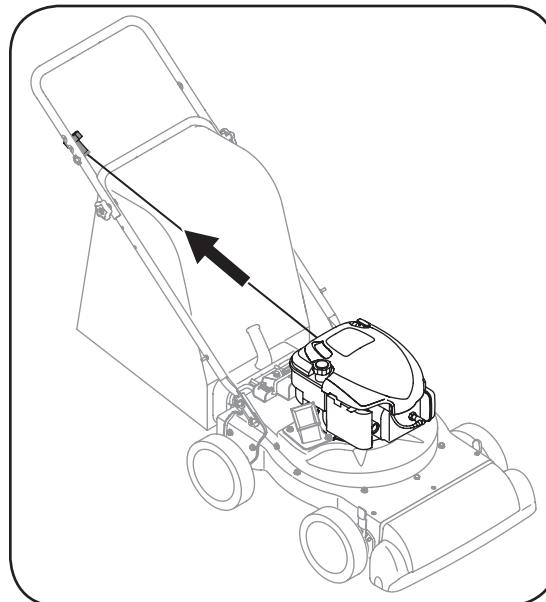

Figure 4-3
5. Standing behind the unit, grasp starter handle and pull rope out slowly until engine reaches start of compression cycle (rope will pull slightly harder at this point). See Figure 4-3.